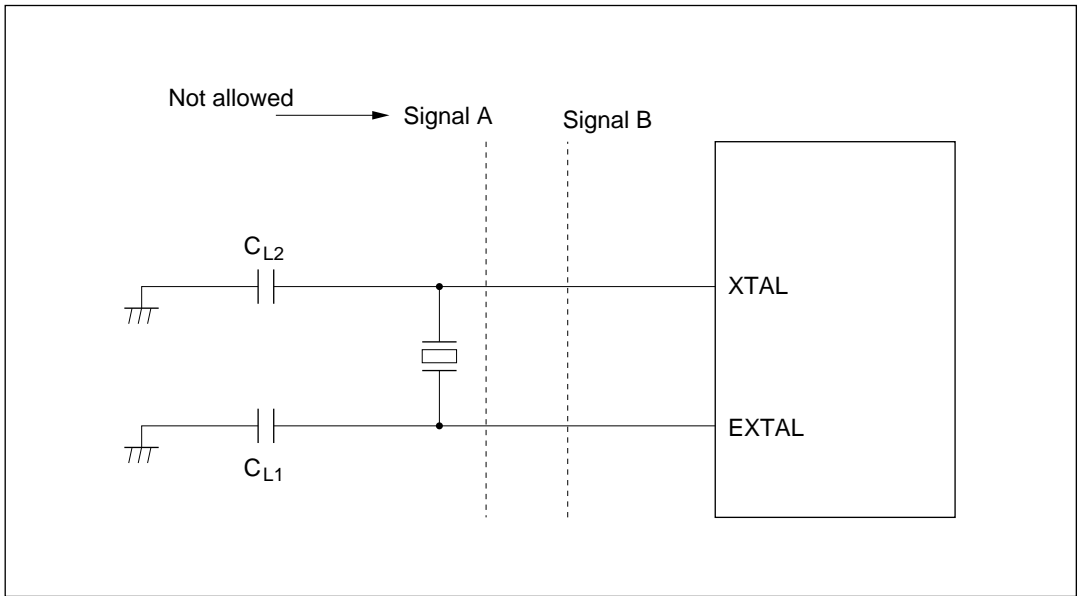

Figure 6-4 Notes on Board Design around External Crystal
③ **Note on Board Design:** When an external crystal is connected, other signal lines should be kept away from the crystal circuit to prevent induction from interfering with correct oscillation. See figure 6-4. The crystal and its load capacitors should be placed as close as possible to the XTAL and EXTAL pins.